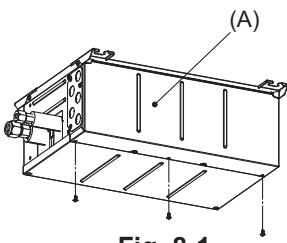

Fig. 8-1
- 1) Remove the electric cover. (Fig. 8-1)